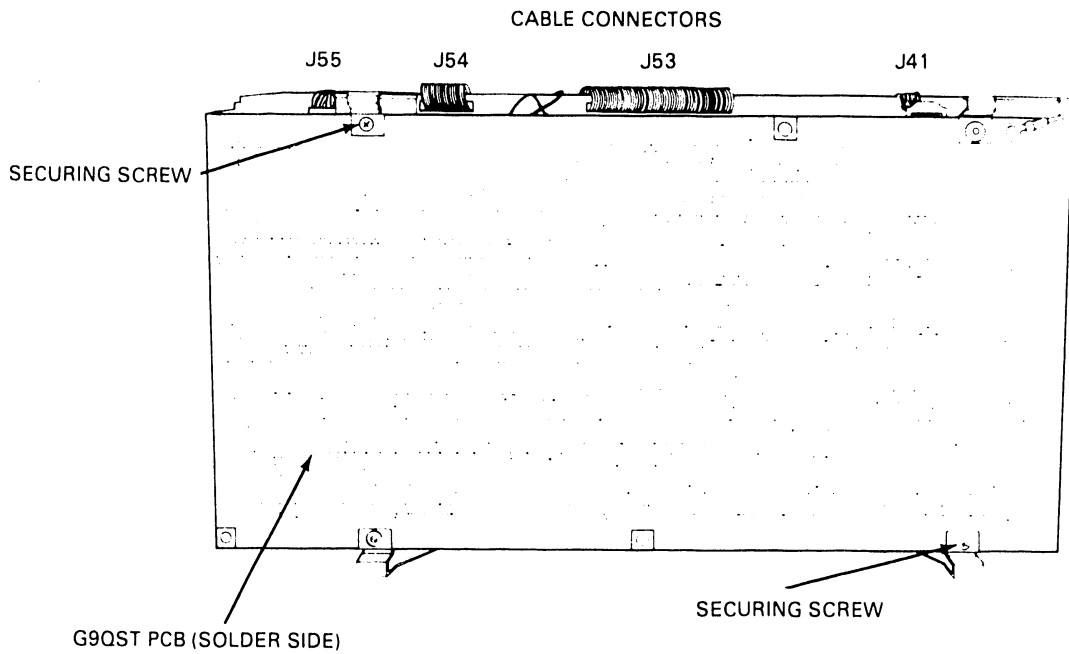

Figure 4-2 G9QST Cable Connectors
5. Disconnect cable connectors J55, J54, J53, and J41 (see Figure 4-2).
6. Remove the two screws that fasten the G9QST to the drive unit (see Figure 4-2).